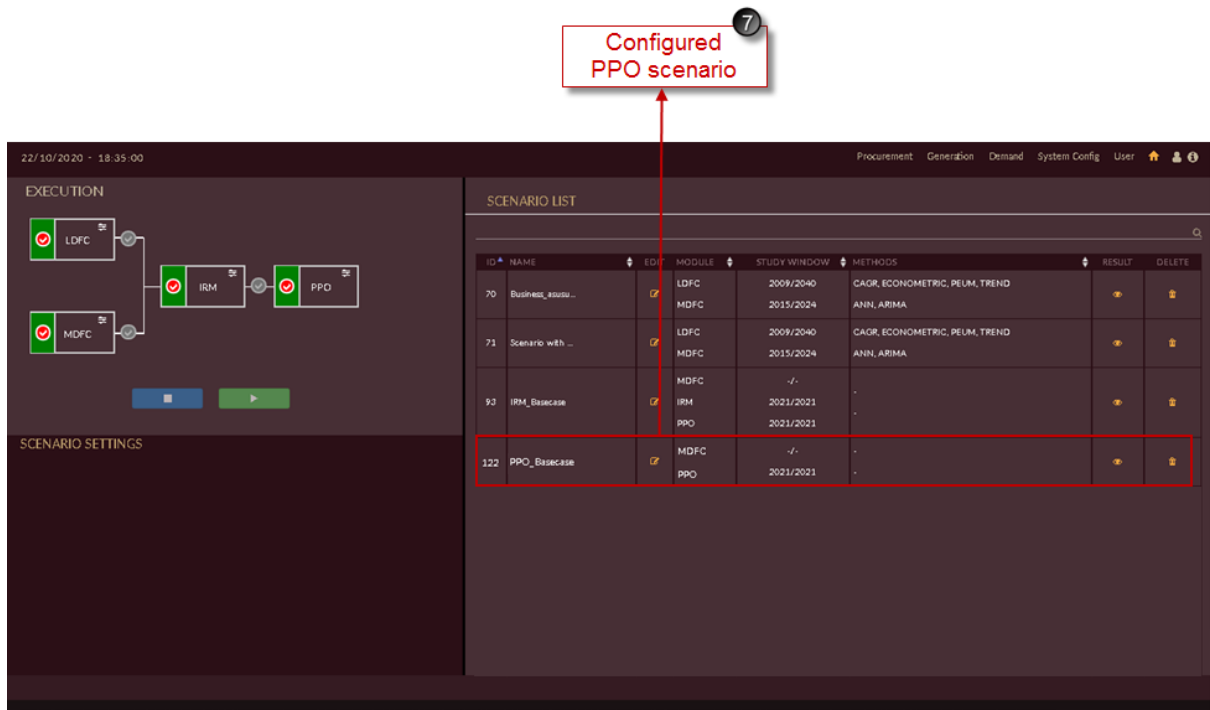

Figure 263. PPO Scenario in Scenario List Page
- The scenario appears in the scenario list as shown in Figure 263.